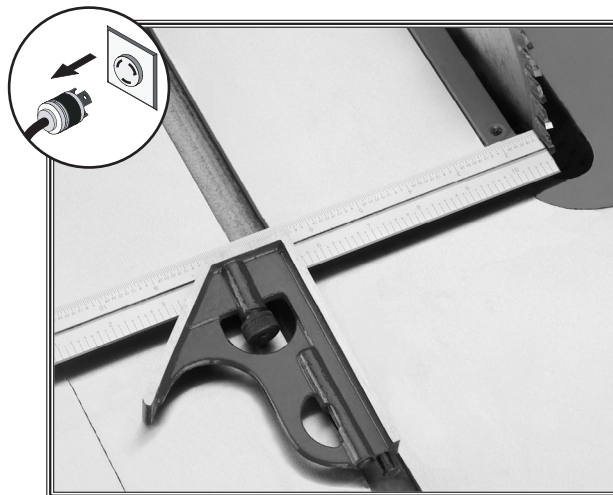

Figure 70. Example of adjusting blade to miter slot.
2. Use an adjustable square to measure the distance from the miter slot to a carbide tip on the blade as shown in **Figure 70**. Make sure that the face of the adjustable square is even along the miter slot.